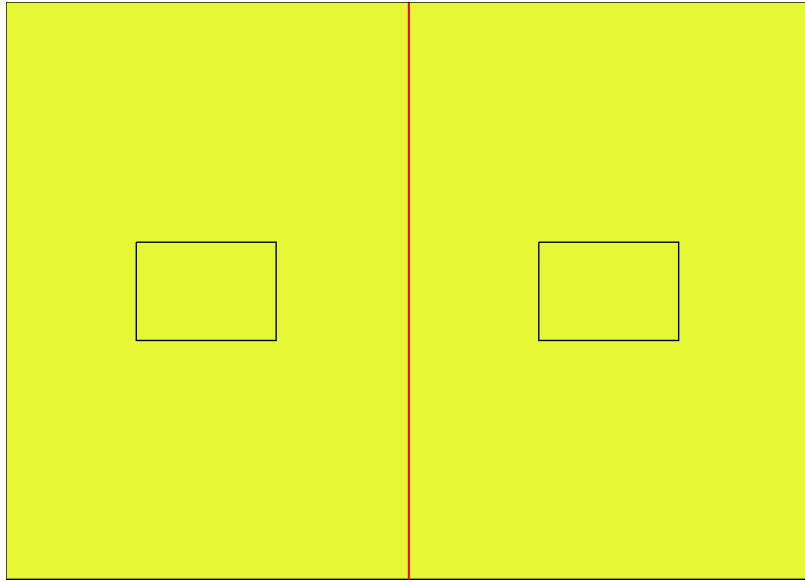

Figure 4: Calibration Film
Step 4: Take four sheets of 8"x10" film and mark them as in Figure 4. The small rectangles should be about 4 mm longer and wider than the frames in the template. Mark an ID number in the corner of each of the small rectangles. The films will first be cut to the red lines yielding eight 4"x5" pieces. Keep the films in the dark until needed for exposure. After the films have been exposed the small, marked rectangles will be cut out.